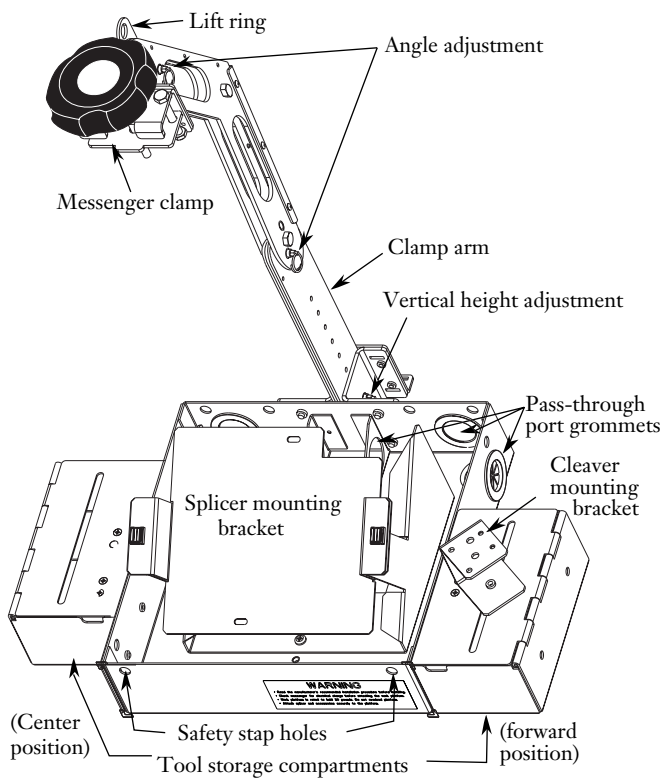

Figure 2
4.1 Figure 2 designates the components of the Aerial Splicing Platform.